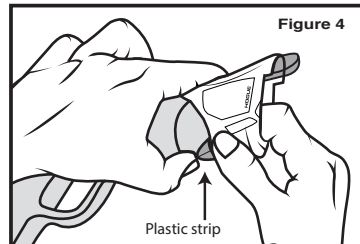

Figure 4
9. While holding the grip's beavertail firmly to the frame, take 1 or 2 fingers inside the front of the grip and pull the front strap onto the frame (Fig. 4). As soon as you see it has started, maneuver the grip onto the firearm by using the plastic to allow the grip to slide onto the frame. **The HandALL is designed to fit tightly and much force may be required to complete this step.** The sleeve should be stretched as evenly as possible. The rubber is very durable and tear resistant although care must be exercised not to gouge, cut, or pull excessively on the edges of the sleeve, as a tear may develop.